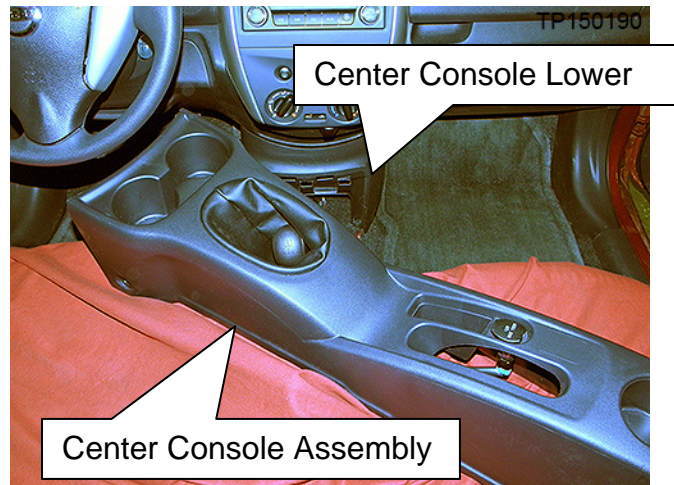

Figure 5
- Lift the Center Console Assembly off of the parking brake lever and turn the entire assembly 90°, and then rest it on the front seats (Figure 5).